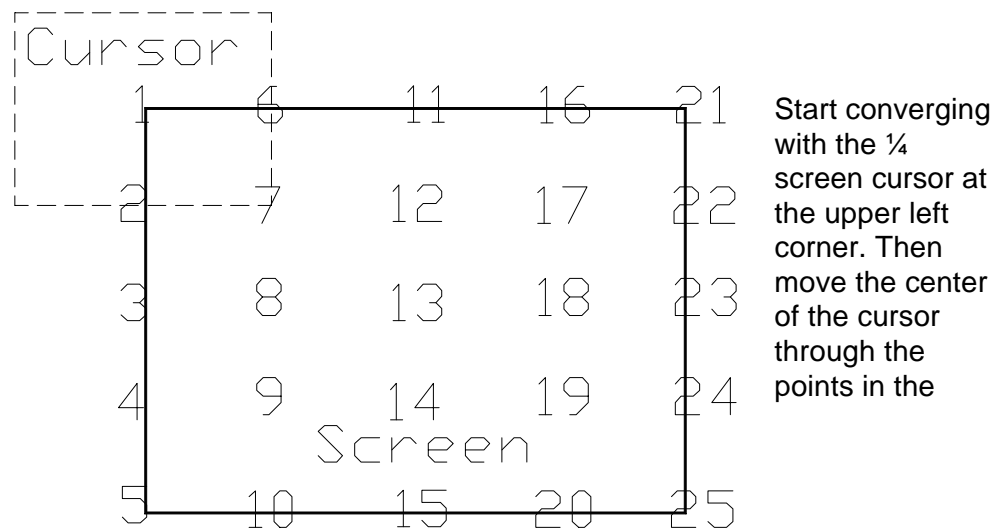

Figure 1-17 The $\frac{1}{4}$ screen cursor at starting point 1.
11. Use the arrow keys to position the cursor so that it is centered over the area to converge. If performing convergence over the entire screen, converge in the numerical order shown in Figure 1-17 below.
13. Use the arrow keys to move the convergence of Red within the cursor area so that it perfectly overlaps Green at the center of the cursor. Concentrate on the cursor center where the greatest effect is, not the edges (*see Figure 1-17*). If the convergence is way off, a numeric value may be entered to save time (*see Reference Information and Definitions section*). If convergence was started at a corner or an edge and the same amount of correction performed applies to an area directly above or below, the "EXTEND" mode may apply (*see USING THE EXTEND MODE below*).
15. Continue moving the cursor around the screen, in the order shown in Figure 1-17, and adjust convergence in the above manner. Converge the entire image with each cursor size before moving to a smaller cursor.